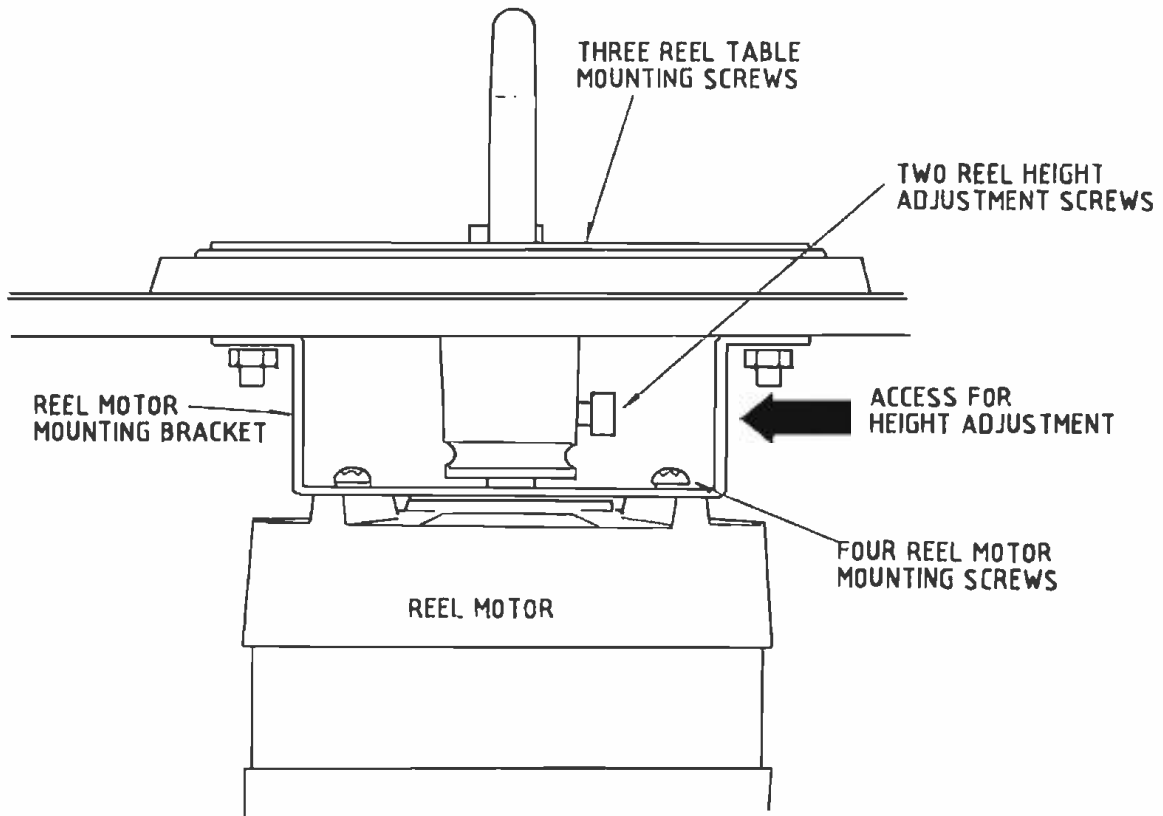
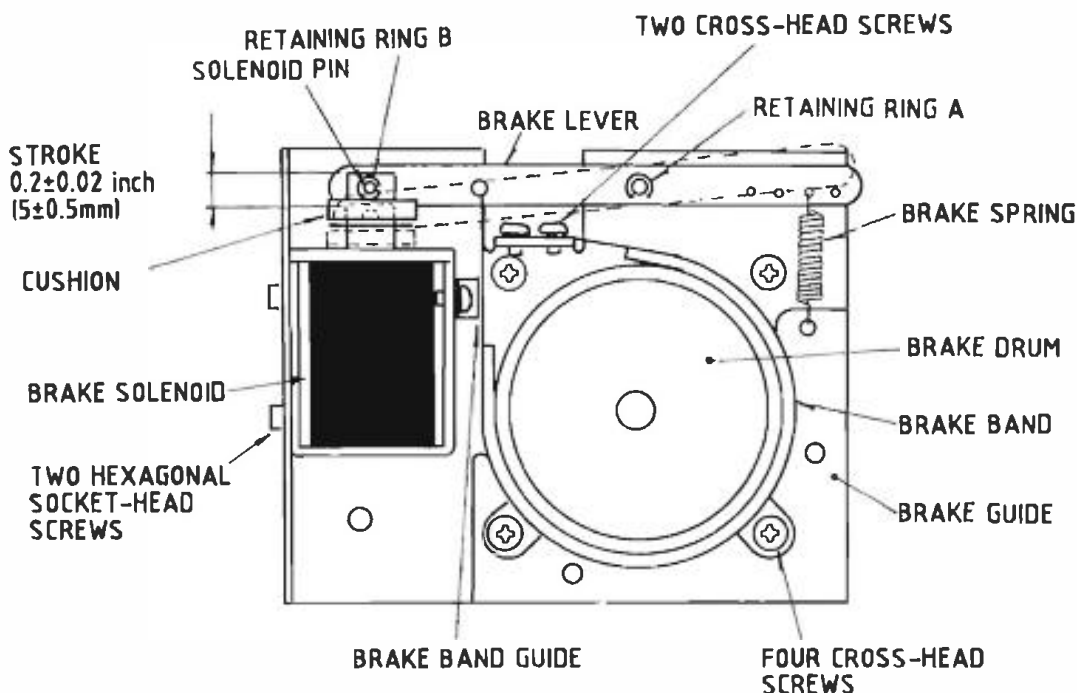

Fig. 6-8 Reel Motor Mounting
Fig. 6-9 Brake Assembly
The reel table may be removed by removing the three cross-head screws accessible from the front of the transport. To adjust the reel table height, loosen the two hexagonal socket-head screws shown in Fig. 6-8, adjust the height and retighten the screws.
- (1) Loosen the two hexagonal socket-head screws on the reel shaft holder (Fig. 6-8) and remove the reel table and holder.
- (2) Tag and unsolder the motor leads attached to the printed circuit board.
- (3) Remove the four motor mounting cross-head screws, accessible from the front of the transport.
- (4) Remove two capscrews holding brake drum on to the reel motor shaft and take out the brake drum.
- (5) Remove the brake assembly by removing the four brake assembly mounting screws on the bottom of the reel motor as shown in Fig. 6-9.
When a new brake band or new brake solenoid is installed (Fig. 6-9), it is necessary to position the brake guide and/or brake solenoid to ensure that is uniform brake band clearance around the brake drum when the solenoid is energized. Also, the brake solenoid plunger must bottom in the solenoid housing when the solenoid is energized. When the solenoid is de-energized, the brake band should uniformly contact the drum surface. After installation, perform the brake adjustment procedure in page 6-3 of this manual. After completion of the adjustments, place the recorder in the play mode for 30 minutes. Then press the STOP and PLAY push-buttons to ensure that the solenoid bottoms when it is hot.